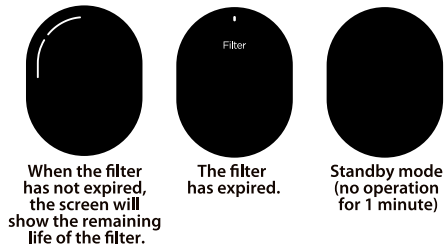

Figure 2
3. Pull the PE-tube out of the fitting (Fig. 2).
2. The faucet is turned off: When the RO system is powered on, the screen will show the filter's status. If there is no operation for 1 minute, the screen will switch to standby mode (Fig. 2).